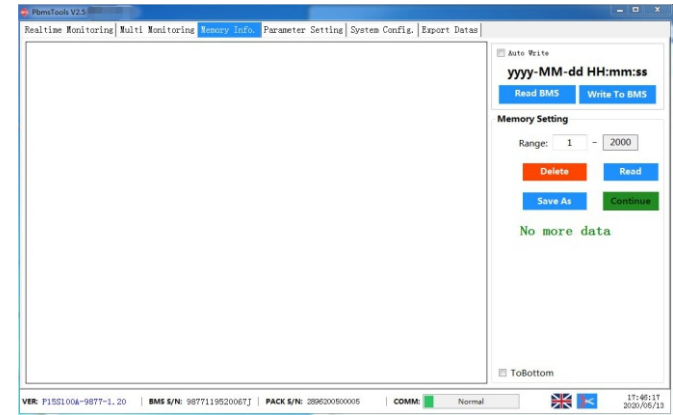

Figure 16: Memory Information
(4) In the Memory Information (As shown figure 16), this page is for reading battery history, including any BMS alarms and battery status information during the protection.